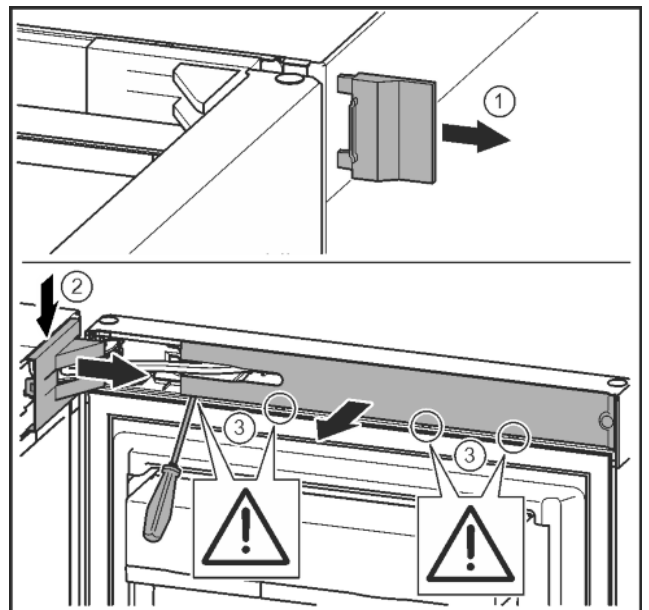

Fig. 11
- ▶ Remove the outer cover. Fig. 11 (1)
▶ Unlatch and undo the bearing bracket cover with a screwdriver. Remove the bearing bracket cover. Fig. 11 (2)
▶ Unlatch the cover plate with a slotted screwdriver and swivel it to one side. Fig. 11 (3)